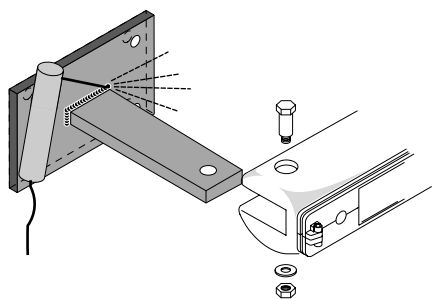

Fig. 5
- Mount the piston on tail bracket [11] (see Fig. 5).